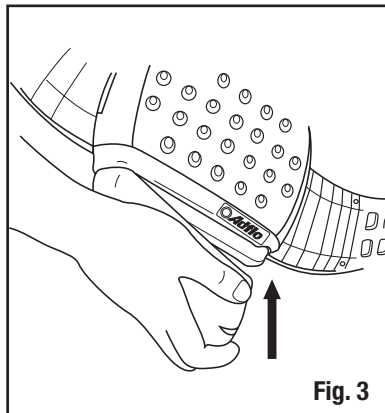

Fig. 3
- Hook the left edge of the battery pack into its holder on the bottom of the unit and press the battery pack into the motor/blower until the catch fully engages **with two audible clicks** (Fig. 3).